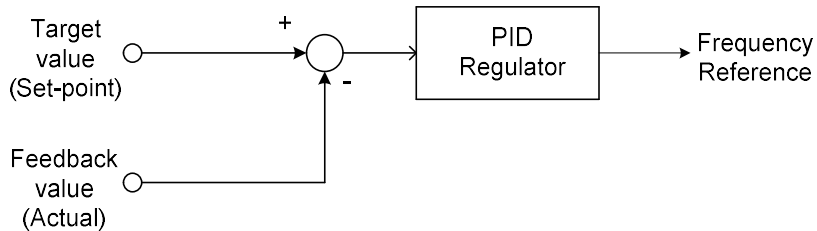

Figure 4.3.42 PID control
- When 10-00 is set to 3 (PID target value source setting), the serial pulse input to the control terminal PI is used as the PID target value. Refer to Figure 4.3.42 on PID control.